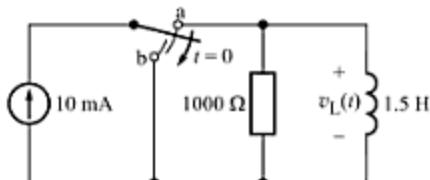

Fig. E-17
- E-22.** Assuming that the switch in the circuit shown in Fig. E-17 has been in position *a* for a long time before it is switched to position *b* at $t = 0$, find $v_L(t)$, the voltage across the inductor with the polarity shown.